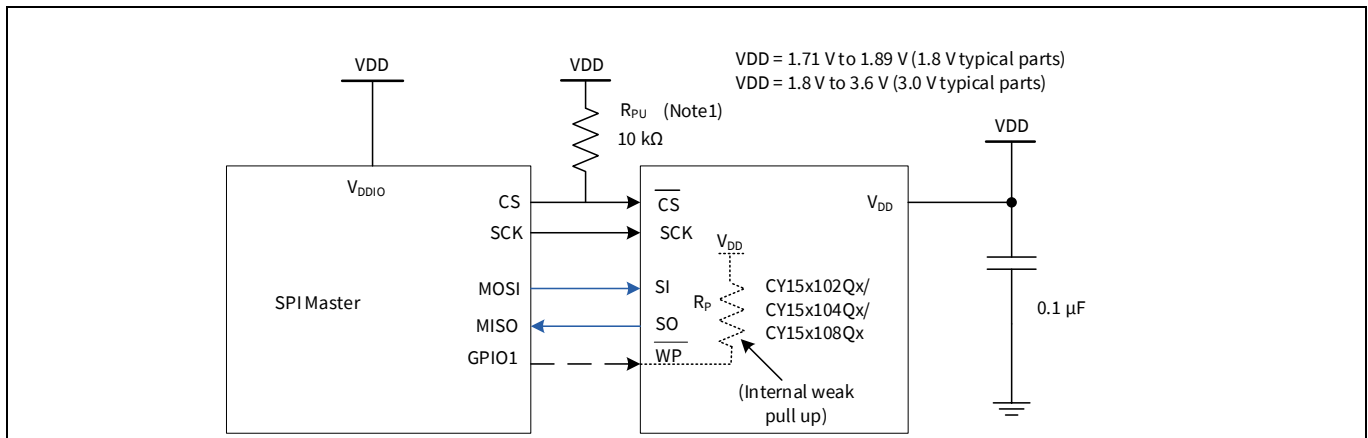

Figure 7 System Interface with EXCELON™ LP SPI F-RAM
This section summarizes other system considerations that can influence the low-power measurements in EXCELON™ LP SPI F-RAMs. **Figure 7** shows an example of EXCELON™ LP SPI F-RAM interface with a SPI host controller.
The signal and device nomenclature used in **Figure 7** is as follows:
3. The \overline{WP} input pin provides an on-chip internal weak pull-up (R_P) to V_{DD} , as shown in **Figure 7**. Therefore, if this pin is biased to a logic HIGH, the input voltage level must at V_{DD} to avoid any current leakage through R_P . If the \overline{WP} is not controlled, it is recommended to leave the pin to floating or short to V_{DD} .